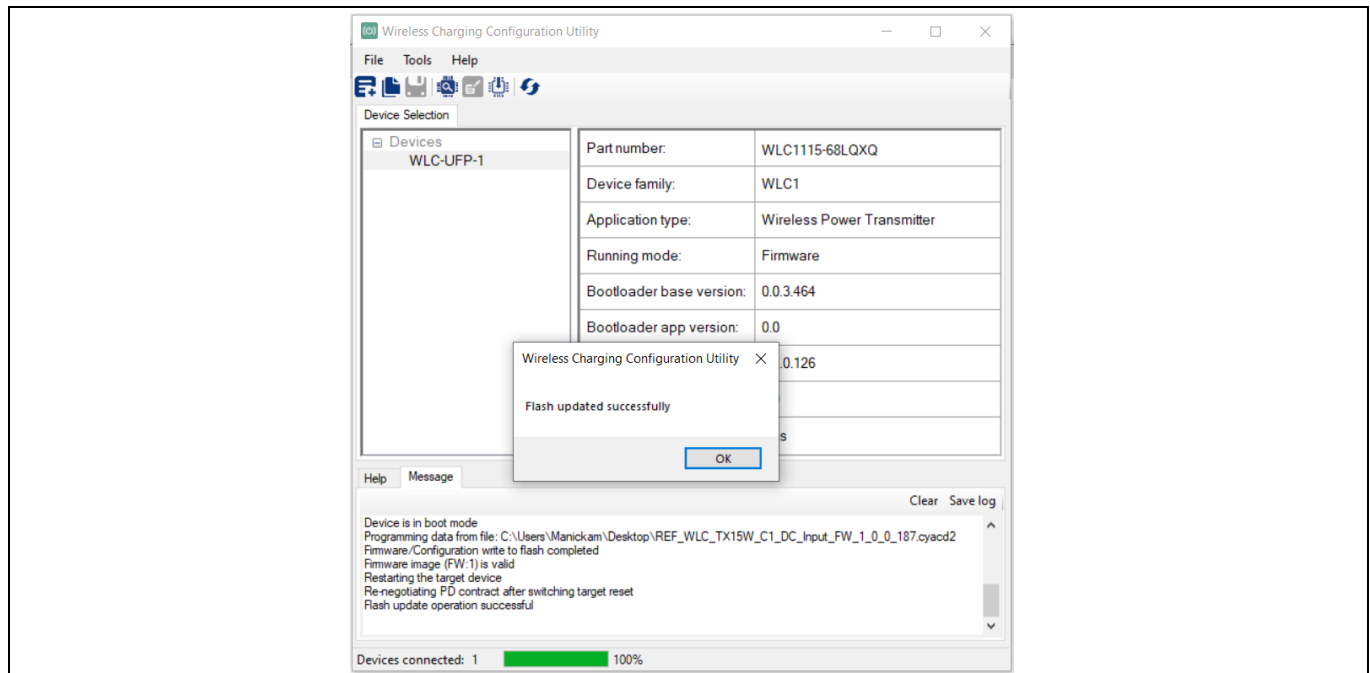

Figure 21 Downloading the firmware supporting DC input-based operation
- e) Wait for the firmware download to complete, as shown in **Figure 21**. This operation may take around 1 minute.